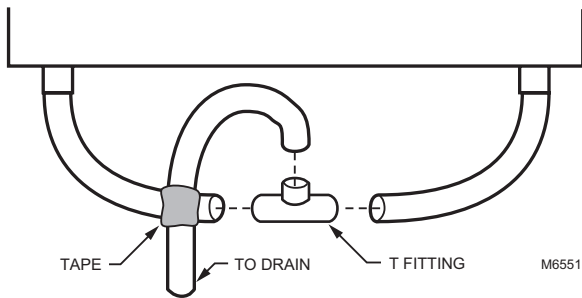

Fig. 9. Installing P-trap.
3. Connect the drain line to the center leg and tape it in place to prevent any kinks. See Fig. 9.